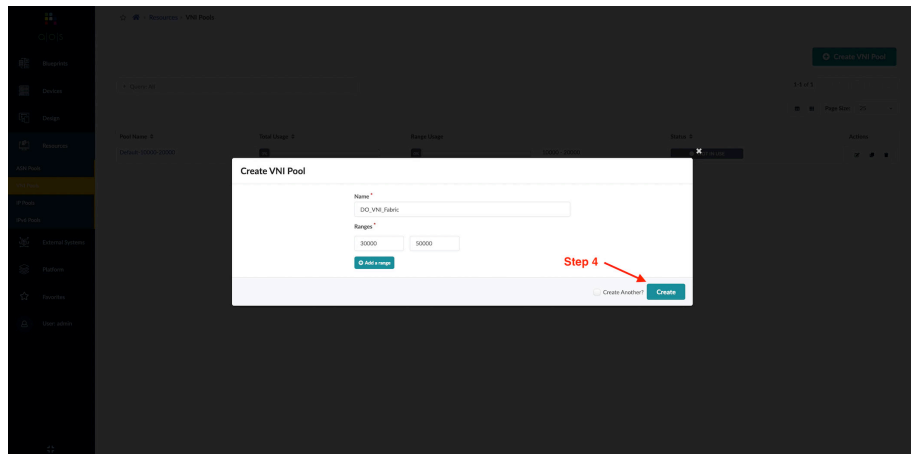

Figure 2.25 Assigning VNI Pool Parameters
Step 3: Add the following information for the resource pool. See Figure 2.25.